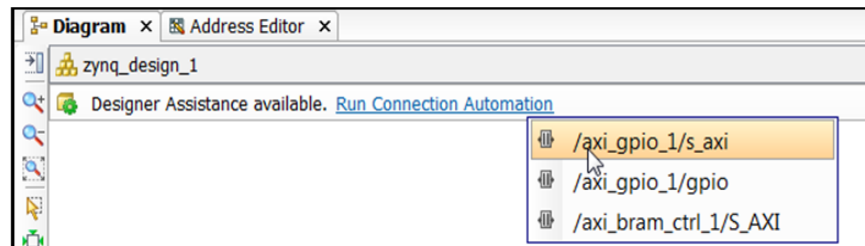

Figure 15: Run Connection Automation
1. Click **Run Connection Automation** and then select **/axi_gpio_1/s_axi** to connect the BRAM controller and GPIO IP to the Zynq PS and to the external pins on the ZedBoard (FIGURE 15).